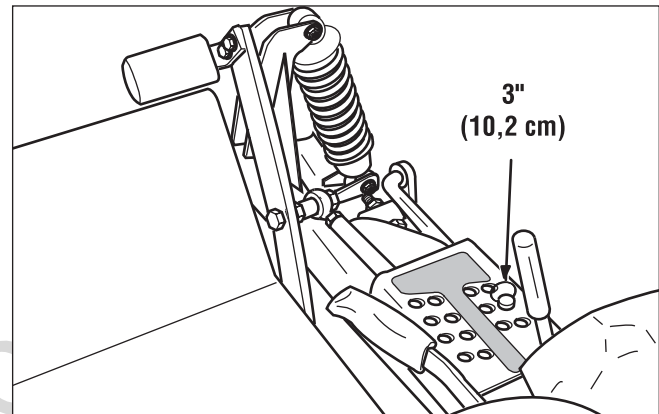

Figure 41. Deck Lift Pedal & Pin Position
6. To ensure that the deck is in the lowest position, push the pedal by hand towards the rear of the unit and install the height adjustment pin in the 3" (7.6cm) position to hold in place. See Figure 41.